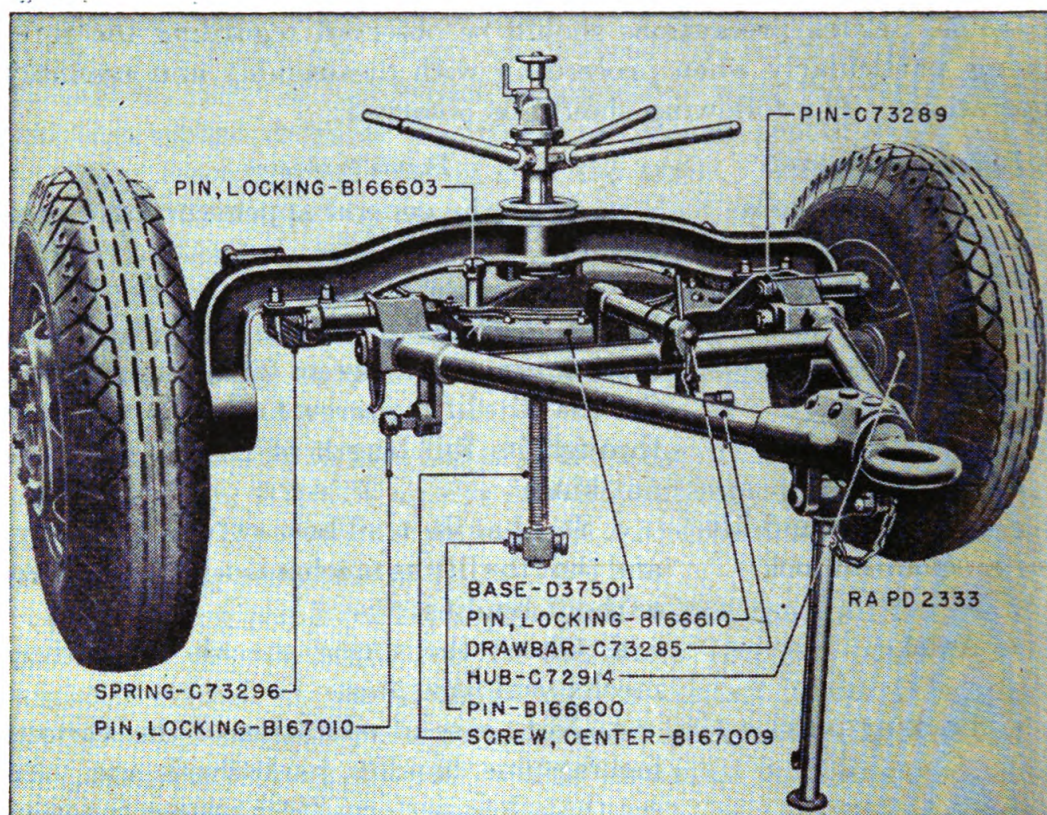

FIGURE 60.—Heavy carriage limber M2—front view.
**81. General information and data.**—The heavy carriage limber M2, used with the 155-mm gun carriage M1 is a two-wheeled pneumatic-tired vehicle which forms the connection between the gun carriage and the prime mover. The limber mounts the limber lifting mechanism that secures the spade end of the trails of the carriage when in traveling position (figs. 60 and 64).
**82. Description and operation of heavy carriage limber M2.**—The principal parts of the limber are the axle D37524 which mounts the limber wheels on antifriction bearings, the base D37501, the trail base D37498, the limber lifting mechanism, and a standard type drawbar with prop and lunette (fig. 60).
*a. Description.*—(1) The axle is assembled with the two springs connected on each end by the spring shackle and lifting mechanism base pins, to bearings that are integral with the base. The base forms the seat for the trail base and is provided with bearings for assembly of the drawbar.
(5) The lifting mechanism lock must be engaged when the carriage is in traveling position.
(6) Locking pin B166610 assembled to the drawbar when engaged, enters the tube B166604 on the base and thereby locks the drawbar to the base. This locking pin must be withdrawn when the carriage is in traveling position.
(7) Locking pin B166603 is provided to lock the trail base to the base. The engaged position is indicated (fig. 60) showing the washer, welded to the locking pin, in contact underneath plate A173453 and locked by a spring-actuated steel ball. To release the lock, turn the locking pin 180°. This lock must be disengaged when the carriage is in traveling position.
(8) The limber wheels are identical and interchangeable with the bogie wheels. The limber wheels are of the single disk and rim type, whereas the bogie wheels are of the dual disk and rim type.